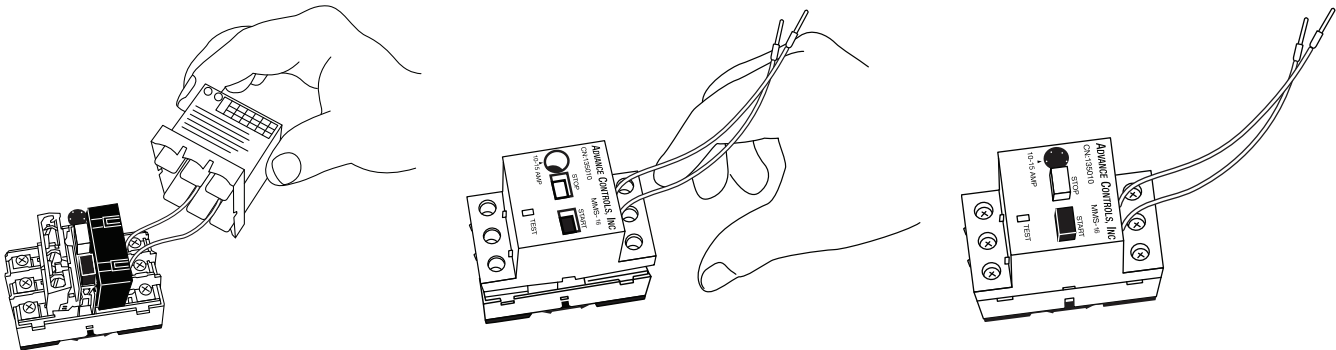

Fig. 126 — Running the Leads and Replacing the Cover
6. Run the 2 white leads from the shunt trip unit through the 2 holes in the MMS cover and carefully replace the MMS cover. See Fig. 126.